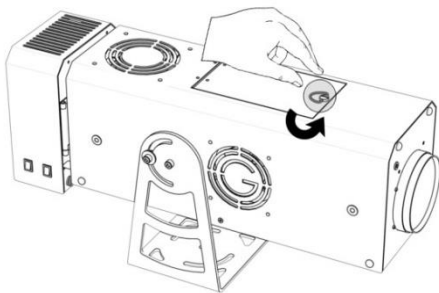
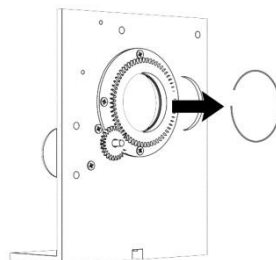
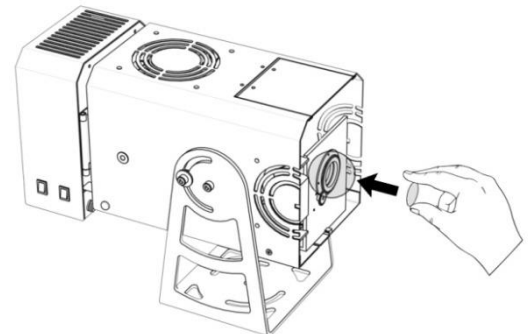

Fig.9
Fig.10
Fig.11
Once you understand the direction of the assembly, open the top cover of the projector turning counter clockwise the locking hook (Fig. 9); remove the spring clip from the gobo support (see Figure 10); insert gobo inside the seat making sure it is well bonded to the substrate (Fig 11); then reinsert the support of the spring clip and then close the top cover of the projector by turning clockwise.
1. Open the top cover of the projector turning counter clockwise the locking hook (Fig 9)